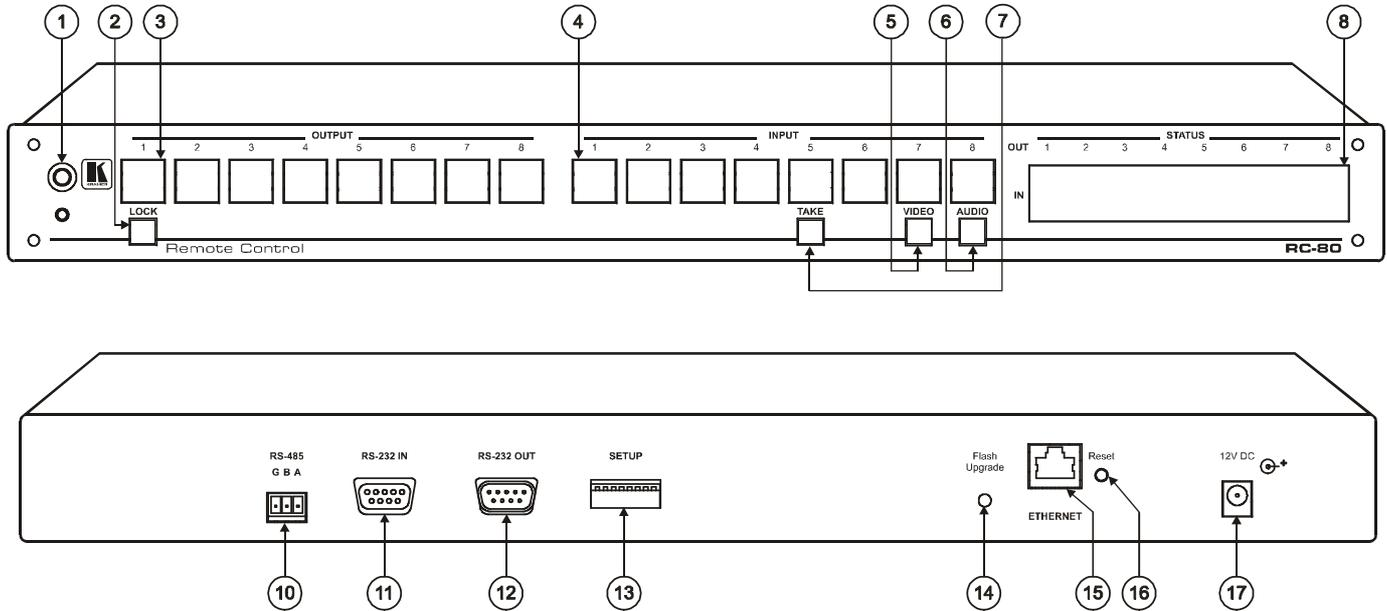

Figure 1: RC-80 Remote Control¹
- Figure 1 illustrates the **RC-80** Remote Control